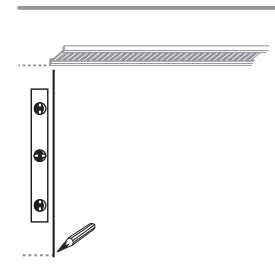

FIG. 2.2
- Mark a plum (vertical Level) line on the wall. (Fig. 2.2)